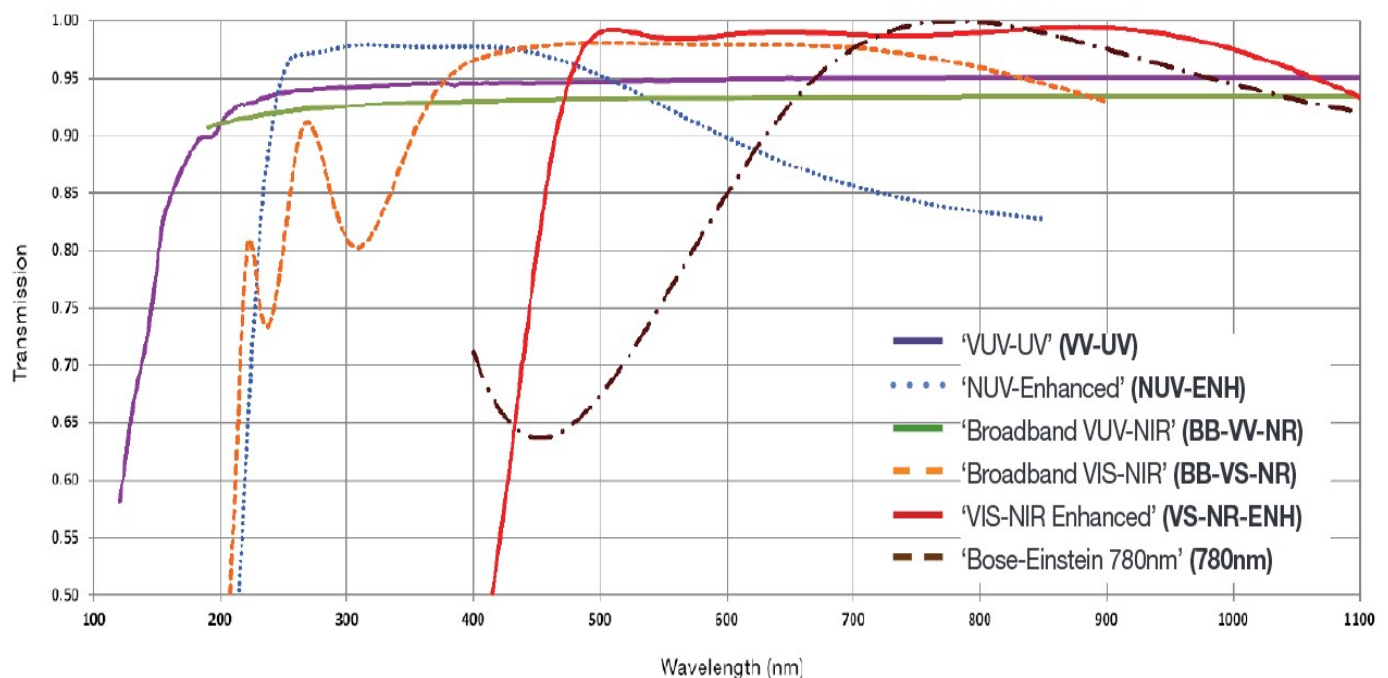
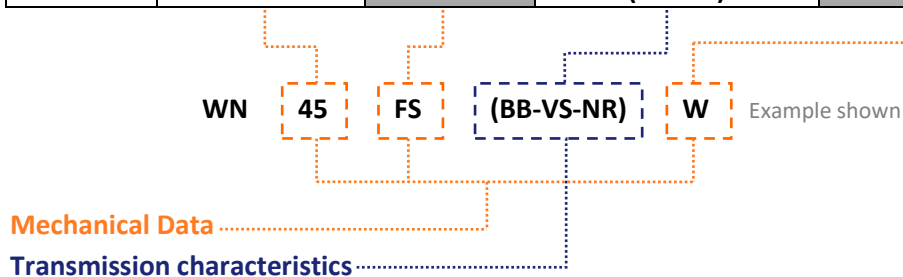

Figure 1: Transmission curves for different window options showing the optimized spectral regions over which the window is most appropriate.
Figure 2: Guide to constructing window code.
Figure 1 shows the transmission curves for the different window options available. Two of these correspond to the raw Magnesium Fluoride (MgF₂) and UV Grade Fused Silica (FS) substrates with no AR coatings and the others are for windows with optimized AR coatings on both sides of the substrate. The meaning of the descriptive codes used is explained in Table 1.
Table 1: Summary of the different types of window option available corresponding to the transmission curves shown in figure 1. The Symbols Key at the bottom summarizes the abbreviations used.
The corresponding transmission curve is shown in Figure 1 as a solid red line and labelled “**VIS-NIR Enhanced**”. A summary of the dimensional data and wedge characteristics for each window is given in Table 3 and Figure 3 of Appendix B. Figure 2 summarizes the options possible for constructing a code to specify a particular window. An example is illustrated for a window which may be used with the Newton camera for optimization across a broad visible to near-infrared range – ‘**Broadband VIS-NIR**’, and which is wedged to minimize any chances of etaloning: the corresponding new window code would be: ‘**WN45FS(BB-VS-NR)W**’.
2. Refer to the transmission curves – Figure 1 (and figure 3) – for the different window options.
- **If the window needed is the standard (S) window**– then just select the camera model as indicated on the Specification Sheet.
- **If another window option (O) is needed**– then a separate line item is needed on the order detailing the option as per the options presented in the Camera Specification Sheet. The separate line items corresponding to the options can be entered automatically when constructing a PO or quotation.
- **If the required window is not available as a standard (S) or an option (O)** – then a CSR will need to be raised. The specific requirements should be outlined when raising the CSR request and creating the CSR ticket. It is recommended that one discusses the detail with an Applications Specialist at this point.